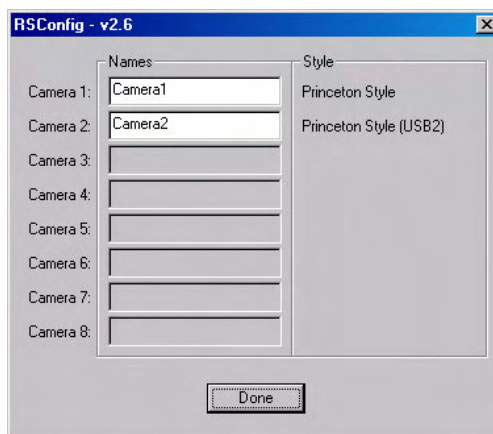

Figure 163. RSConfig dialog box: Two Camera Styles
4. Run RSConfig.exe (accessible from the **Windows|Start|Programs|Roper Scientific** menu). If the USB 2.0 camera is listed as Camera 2 (Princeton Style (USB2)) in Figure 163), you will have to edit the PVCAM.INI file.